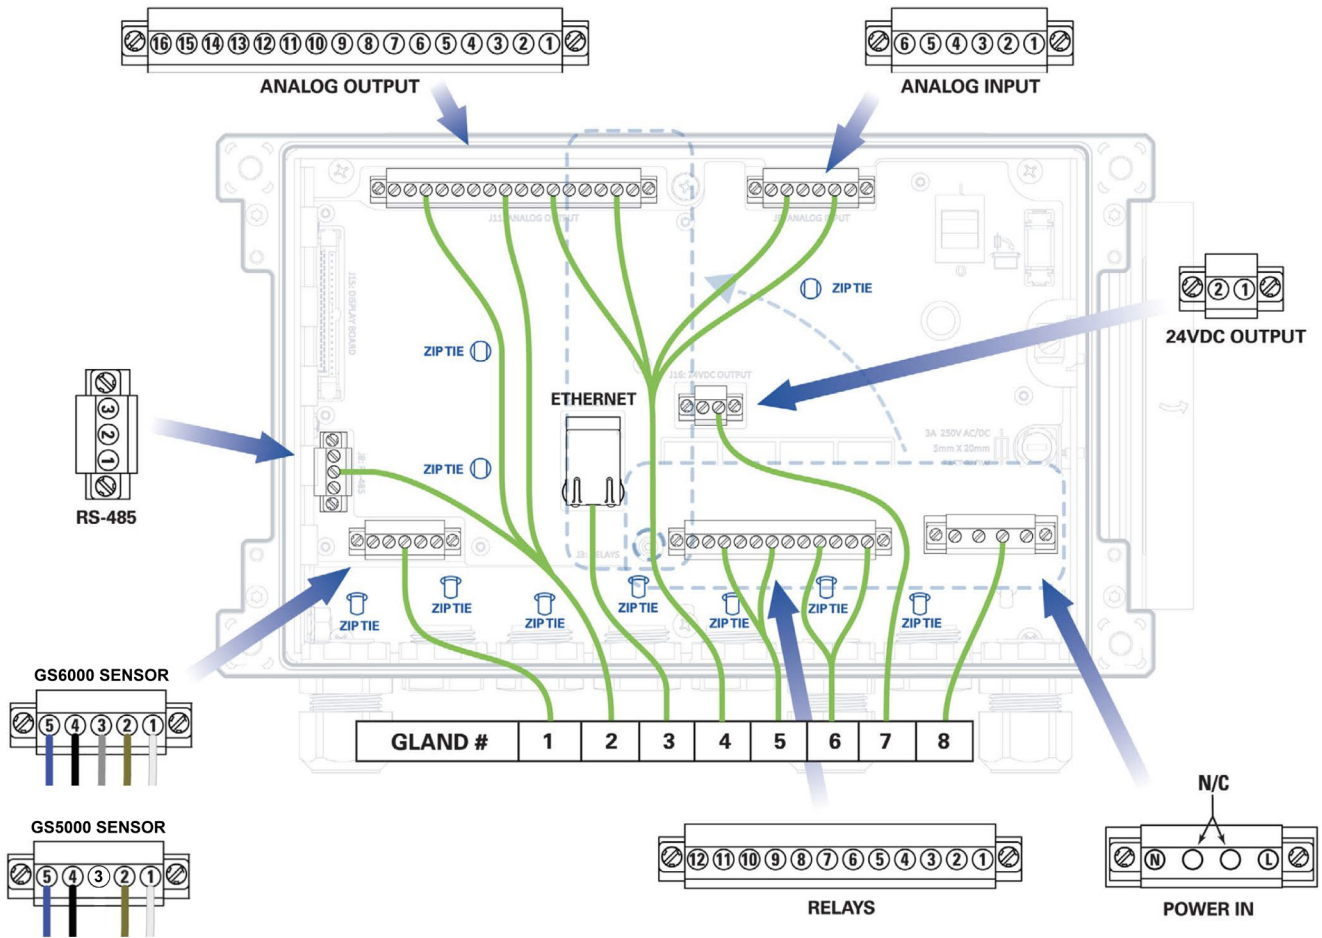

Figure 7: Gland Ingress Wiring
7. Insert each bare wire — not the insulated portion of the conductor — into the slotted opening on the mating connector in accordance with the label on the connector and as illustrated in Figure 7.